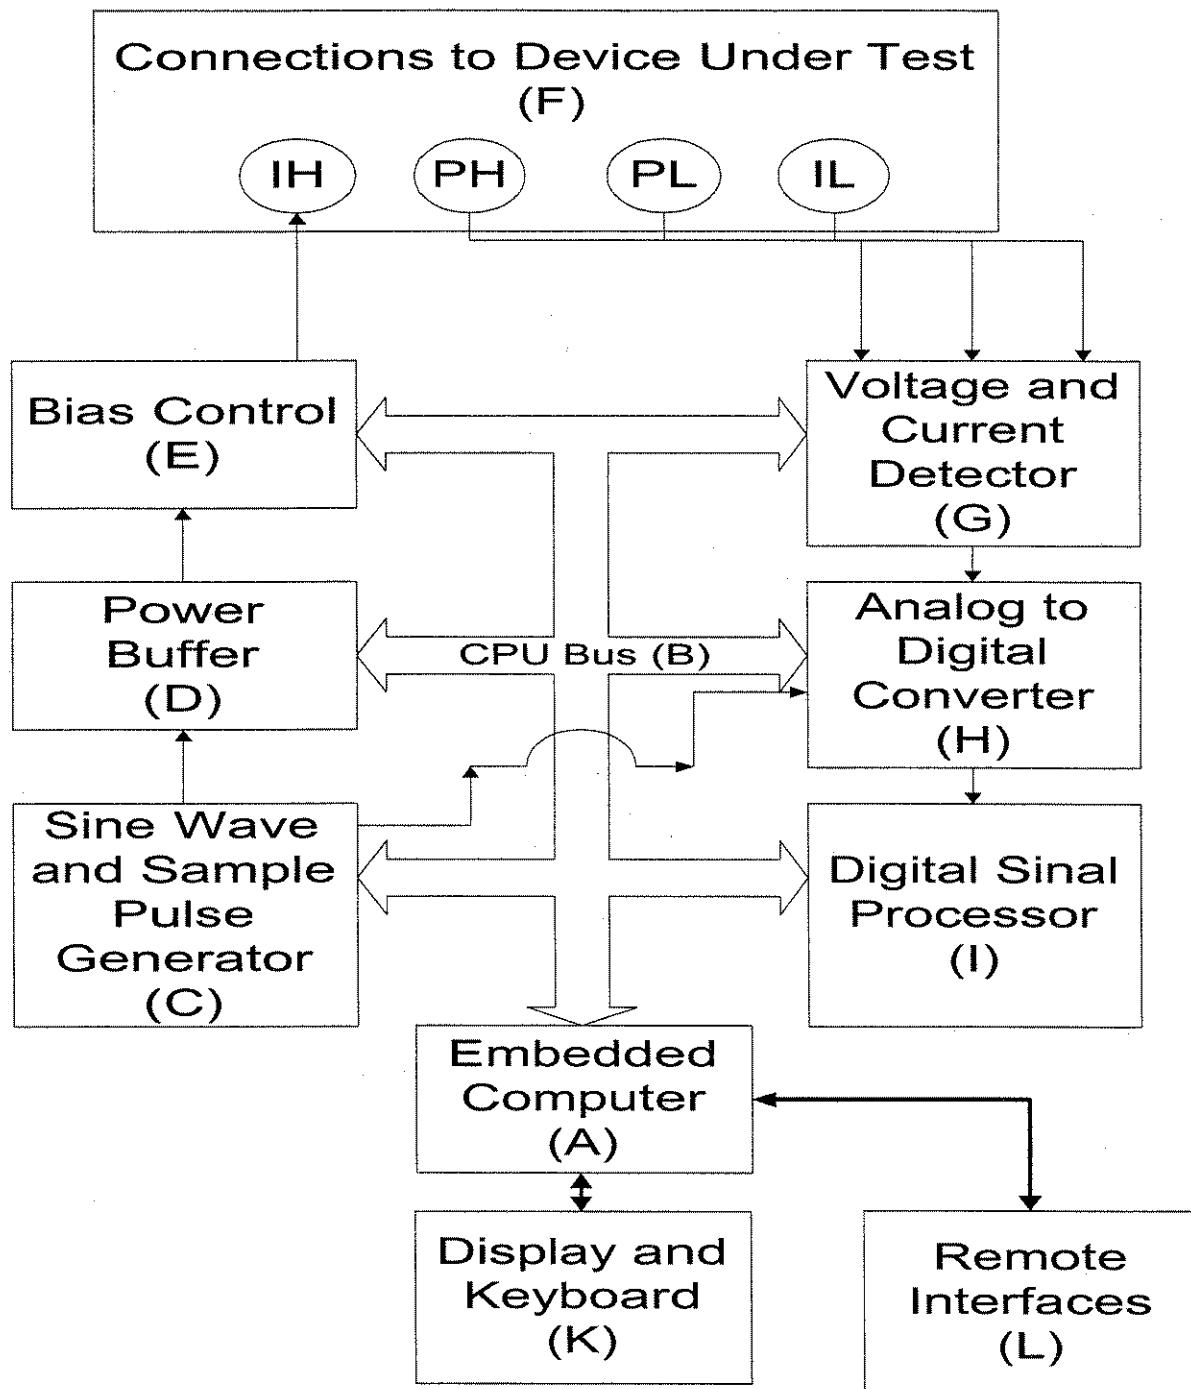

Figure 4-1
The block diagram, Figure 4-1, shows the embedded computer connected via a CPU bus (B) composed of address, control and data lines to the other major functional blocks of the circuit.